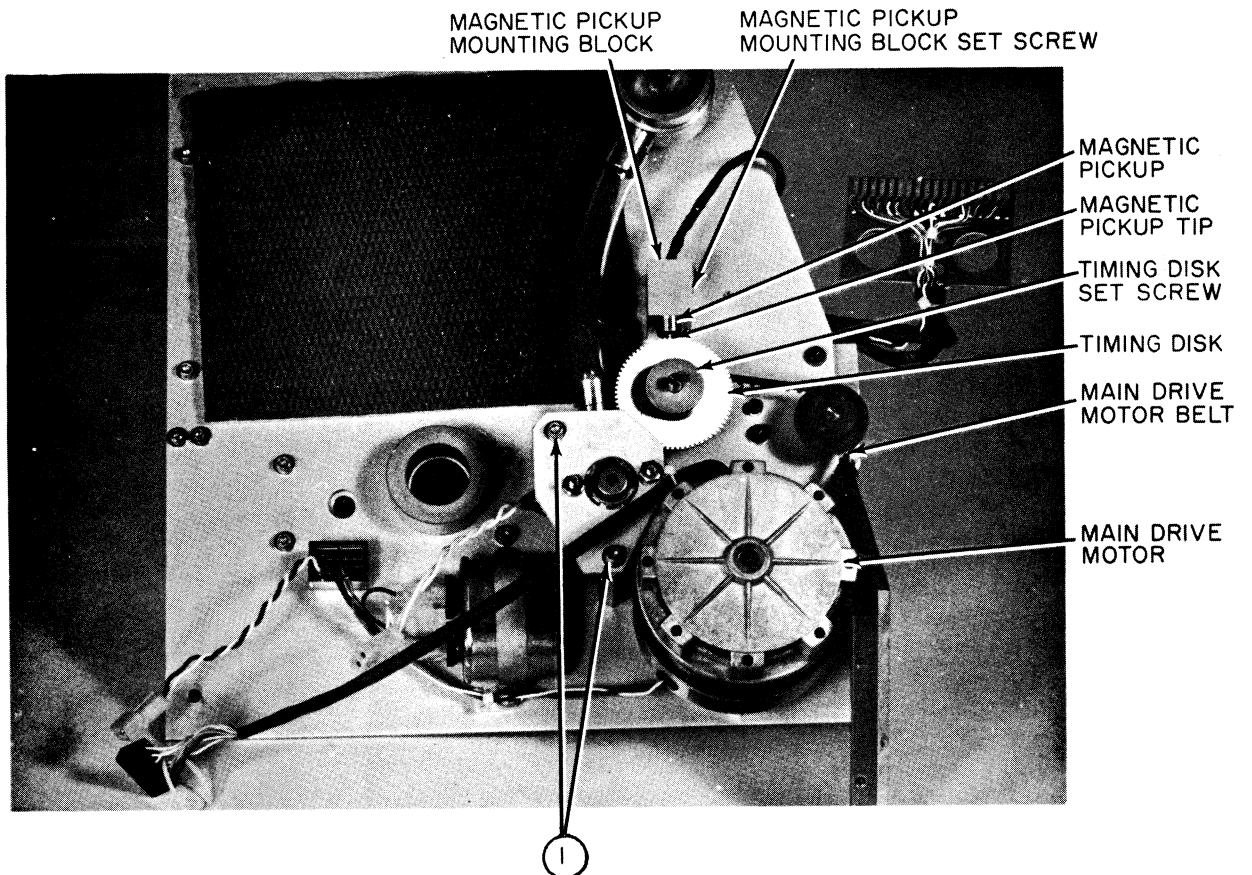

Figure 9-6. Bottom View, Main Mounting Plate
- c. Using a 5/64 Allen wrench. LOOSEN set screw in timing disc, figure 9-6.
- b. Using a 1/16 Allen wrench, LOOSEN set screw in magnetic pickup mounting block, figure 9-6.
5. Using a 5/64 Allen wrench, LOOSEN set screw in timing disc. Remove timing disc, figure 9-6.
- c. Using a 1/16 Allen wrench, LOOSEN set screw in magnetic pickup mounting block and remove magnetic pickup, figure 9-6.